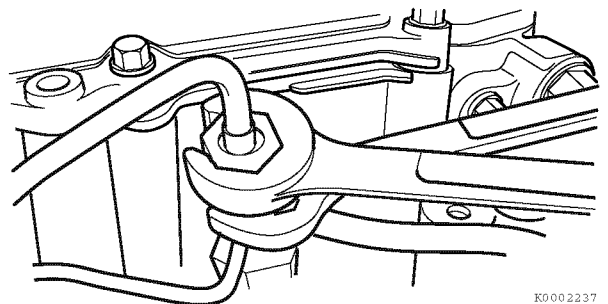

Figure 7-11
3. When tightening the fuel line nuts on the fuel injectors, use one wrench to hold the fuel return line nut and fuel return line from rotating. Use a second wrench to tighten the fuel line nuts (**Figure 7-11**). *See Special Torque Chart on page 7-9.*